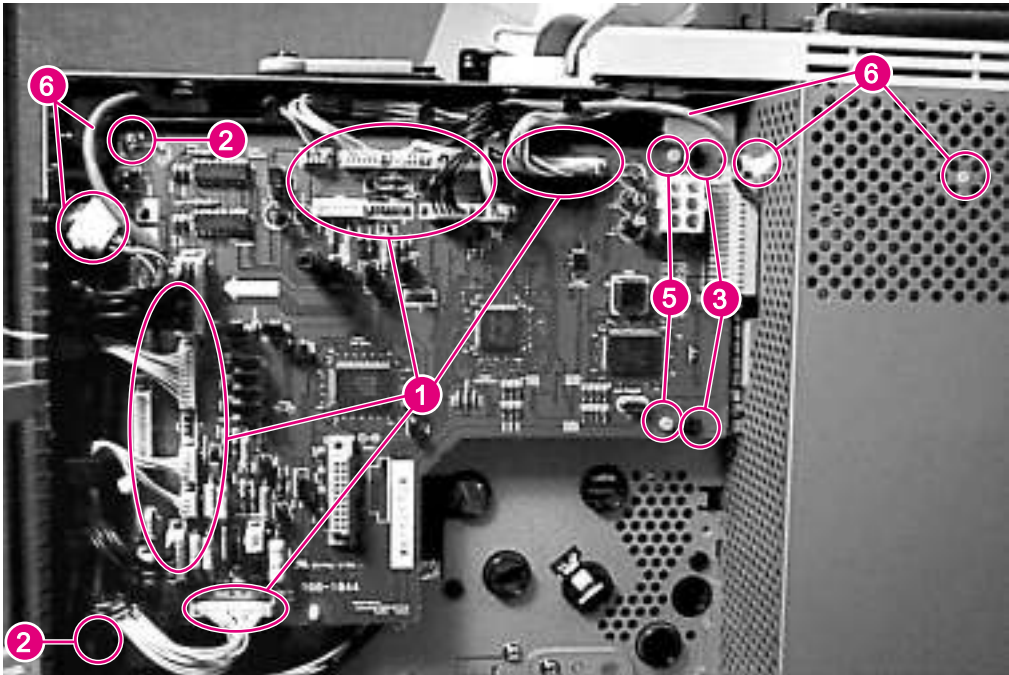

Figure 6-43 DC Controller PCA
- 4 Unplug 19 connectors from the PCA (figure 6-43, callout 1).
- 5 Remove 2 screws (figure 6-43, callout 2) from the left side of the PCA and 2 self-tapping screws (figure 6-43, callout 3) from the right side of the PCA.
Make sure the retaining clip posts (figure 6-43, callout 4) and the two locator pins (figure 6-43, callout 5) are properly aligned.
- DC Controller PCA (see figure 6-43)